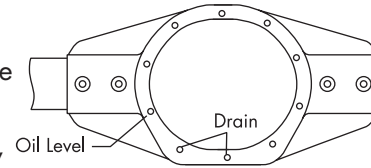

Figure 1
To check oil level, see figure 1. By replacing stud with a 3/8-16 grade 8 or 9 cap screw, this hole can be used to check oil level. **NOTE:** All plugs below oil level have been purposely eliminated to avoid accidental oil loss.
1. Amount of stagger (figure 1)
Tire stagger tends to tip your tires up on one side causing uneven loading and uneven temperatures across the tire tread, along with a smaller contact patch (figure 1). With an increase in stagger difference, you can expect a greater imbalance.